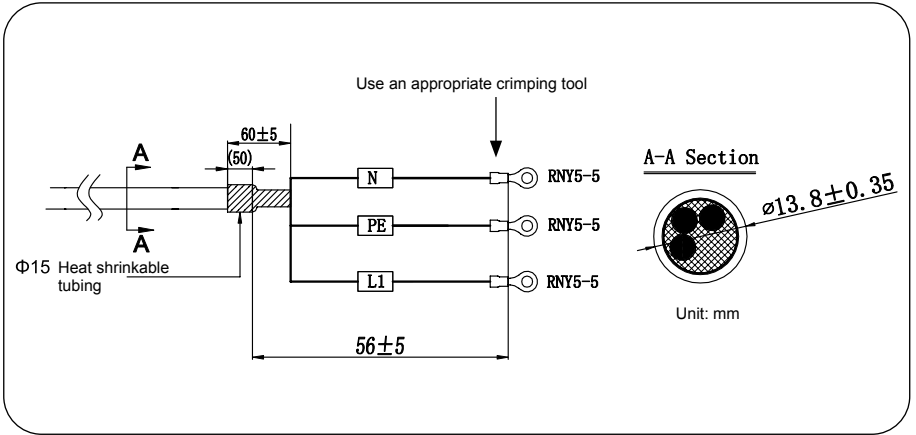

Figure 28
- **A0070230E11 (single-phase)** - 3x6mm2 AC power cables (outer diameter range: 13 ~ 16mm) are recommended, prepared as shown in Figure 28.